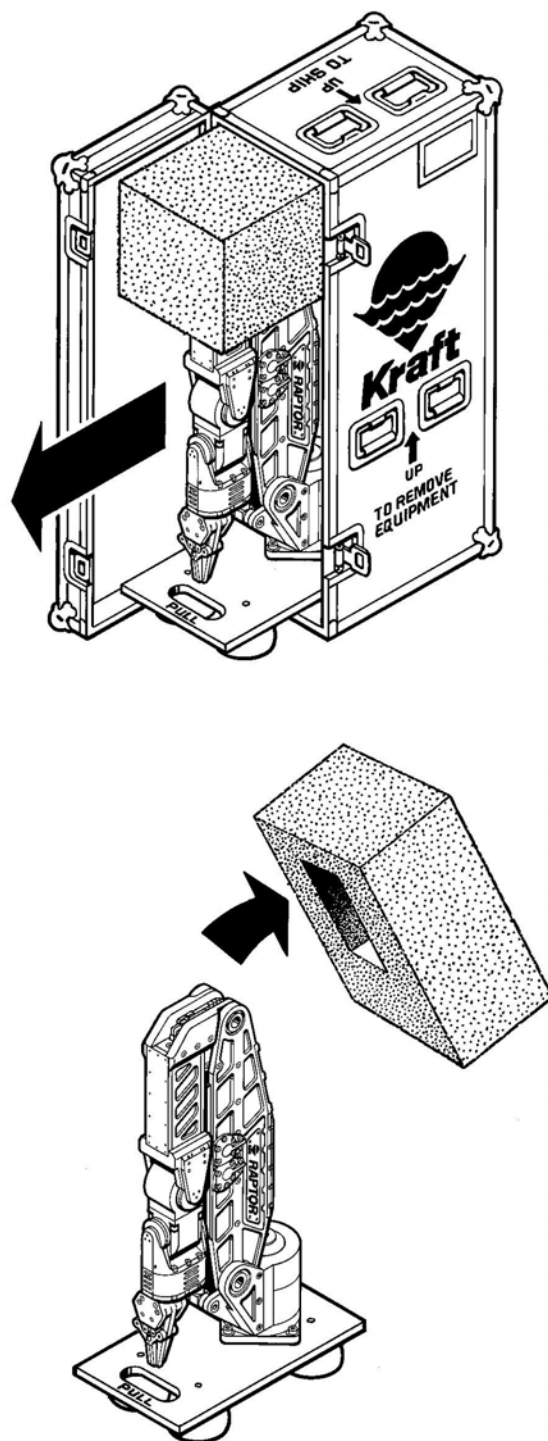

Figure 2-1 Unpacking the *Raptor* Slave Arm
1. Set container upright as shown in Figure 2-1 before opening.